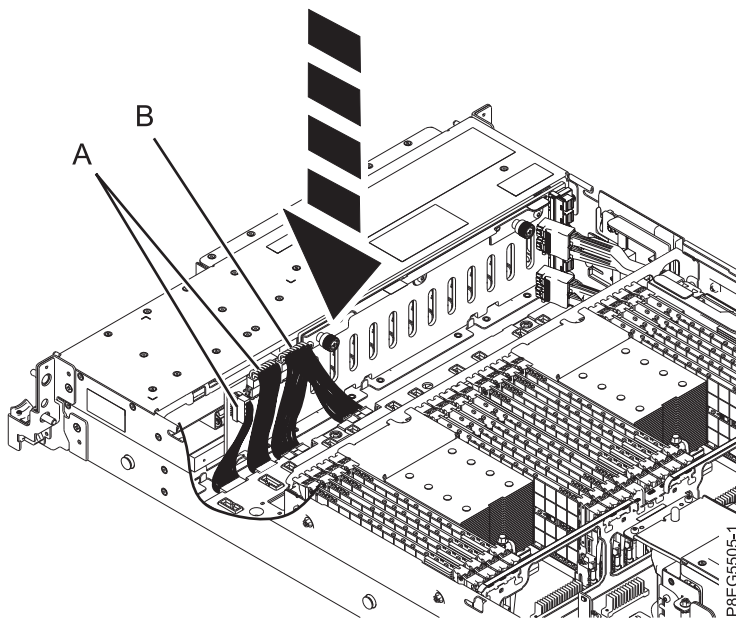

Figure 34. Reconnecting the power, signal, and control panel cables
30. Reconnect the signal and control panel cables (**A**), and the power Y cable (**B**) to the disk drive backplane and the system backplane as shown in Figure 34.